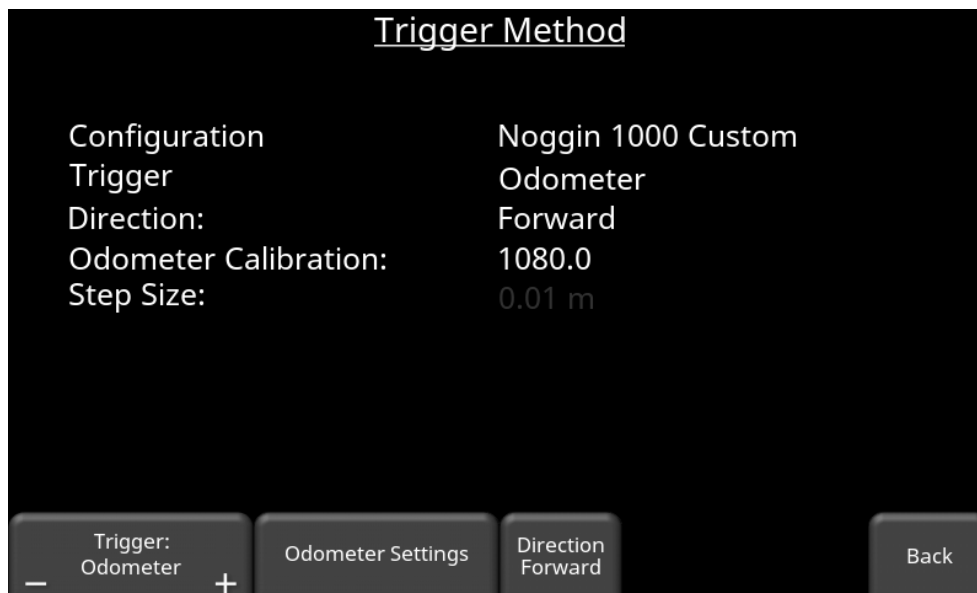

Figure 5-14: Trigger Method menu, showing odometer settings at bottom
- **Odometer** – this will pulse the Noggin based on distance travelled. The bottom menu will change as shown in Figure 5-14, displaying the following options: